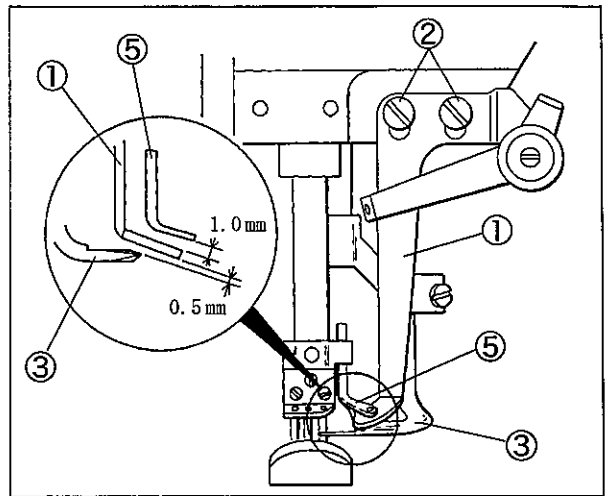

Fig. 48
- (1) Loosen the screws ② of the top cover thread guide ①. (Fig. 48)
- (2) Make the clearance between the top of the spreader ③ and the bottom of the top cover thread guide ① to 0.5 mm. (Fig. 48)
- (3) Set the hook ④ in the center of the slot of the top cover thread guide ① when the spreader ③ is at the extreme right. Then, tighten the screws ② securely. (Figs. 48 and 49)
- (2) Make the clearance between the top of the top cover thread guide ① and the top cover thread eyelet ⑤ to 1.0 mm when the needle bar is at the lowest point. (Fig. 48)